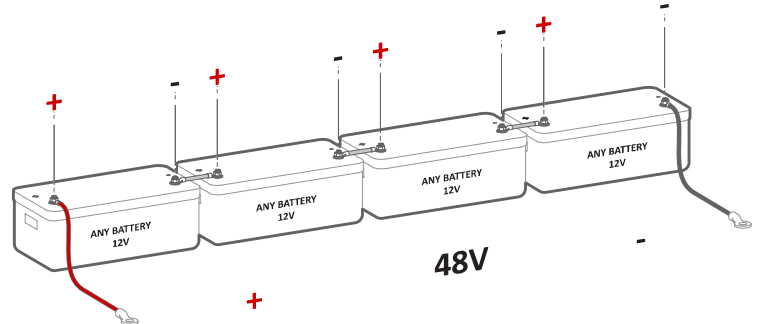

Figure 5b: 12Vdc batteries in series connection
⚠️ MIDNITE MN 15-12KW-AIO is a **48V nominal system**. **DO NOT** connect the inverter to any other battery configuration. If you use 12V batteries, you **MUST NOT** exceed four (4) batteries in series, as shown in Figure 5b. The inverter can work with any battery chemistry as long as it remains within the range of **40Vdc to 64Vdc**.